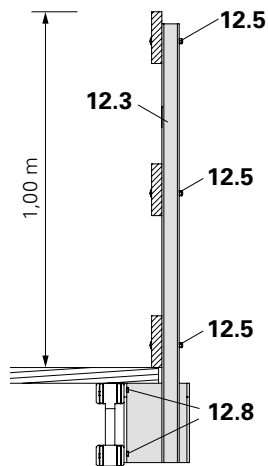

Fig. A1.33a
3. Use wood screws (6x) 6 x 80 DIN 571 (12.8) for fixing to girder. (Fig. A1.33a)